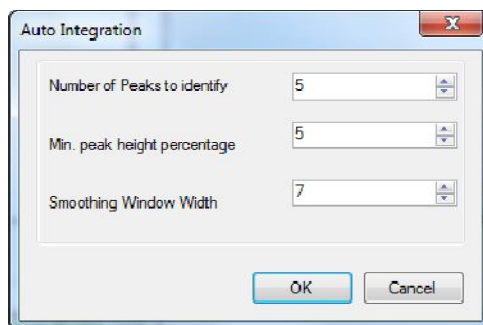

Figure 7-14 Parameter Settings for Automatic Integration
- (11) Click the  icon, and users can set Automatic Integration parameters in the dialog box as required, as shown in Figure 7-14.